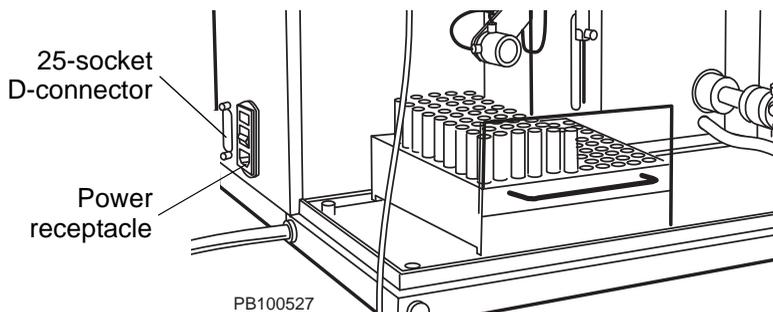

Figure 2-6 AFC 2000 Power Receptacle and 25-Socket D-Connector
2. Connect the power cord to the power receptacle on the left side of the AFC 2000 (Figure 2-6). Plug the power cord into an electrical outlet.
- Connect the 25-pin D-connector to the 25-socket D-connector on the left side of the AFC 2000 (see Figure 2-6 on page 2-7).